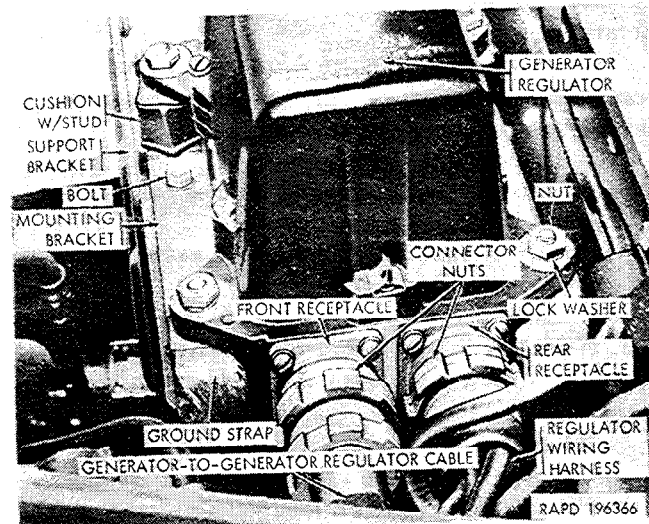

Figure 2-30. Generator regulator installed.
(1) Remove the four lockwasher screws which secure the left fender-to-hood panel and remove the panel.
(2) Disengage the cable from the cable clip on the left front fender. Unscrew the generator-to-generator-regulator cable connector end nuts from the receptacle (C) and the front receptacle of the generator regulator (fig. 2-30), and remove the cable.
(3) Connect the cable to the generator receptacle (C) and the front receptacle of the generator regulator (fig. 2-30), screwing the connector end nuts to the receptacles. Engage the cable in the cable clip on the left front fender.
(4) Position the left fender-to-hood panel and install the four lockwasher screws. Tighten the screws.
a. Remove Generator Regulator (Fig. 2-30).
(2) Remove the left fender-to-hood panel (para 2-33 h (1)).
(3) Disengage the generator-to-regulator cable from the cable clip on the left front fender. Disconnect the generator-to-regulator cable and the regulator wiring harness from the generator regulator receptacles, using a suitable spanner wrench.
(4) Remove the four nuts and lockwashers that secure the regulator, and remove the regulator.
b. *Remove Cushions, Regulator Brackets, and Ground Straps (Fig. 2-30).*
(1) Unscrew the four cushions with studs from the mounting brackets and remove the cushions and ground straps.
(2) Remove the four nuts, lockwashers, and bolts that secure the two mounting brackets to the regulator support bracket, and remove the two brackets.
(1) Inspect the support bracket attaching screws for damage, looseness, and missing screws and lockwashers. Tighten loose screws and replace damaged and missing screws and lockwashers.
(2) Inspect the four ground straps for corrosion and other damage. Replace the straps as warranted.
(3) Inspect the four cushions with studs for damage, deterioration, and damaged threads on the studs. Replace damaged cushions.
(4) Inspect the two mounting brackets for cracks, distortion, and damaged bolt or stud holes. Replace the brackets as warranted.
d. *Install Regulator Brackets, Cushions, and Ground Straps (Fig. 2-30).*
(1) Make certain that the contacting surfaces of the mounting brackets and the ground straps are thoroughly clean to insure a good ground connection.
(2) Position the two mounting brackets on the support bracket and install the two bolts (from the upper side of the brackets), lockwashers, and nuts for each bracket. Tighten the nuts.
(3) Place one end of a ground strap over each cushion stud opening in the two mounting brackets. Install the four cushions, screwing the short end of each stud into the support bracket hole.
(1) Place the outer end of each ground strap on the upper end of its cushion stud, position the regulator on the four cushion studs with the two receptacles to the left side of vehicle, and install the four lockwashers and nuts (fig. 2-30). Tighten the nuts.
(2) Connect the regulator wiring harness to the rear receptacle and the generator-to-generator-regulator cable to the front receptacle, screwing the connector end nuts to the receptacles. Engage the generator-to-generator-regulator cable in the cable clip on the left front fender.
(3) Install the left fender-to-hood panel (para 2-33 h (4)).